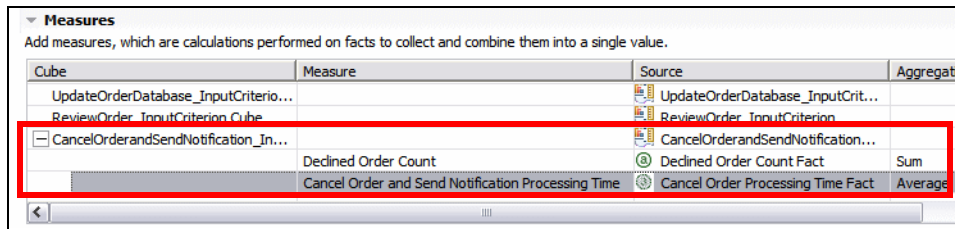

Figure 12-62 Measure for activity duration
- ▶ Select the *Cancel Order Processing Time Fact* for the source for this measure and leave the function as *Average* (Figure 12-62).